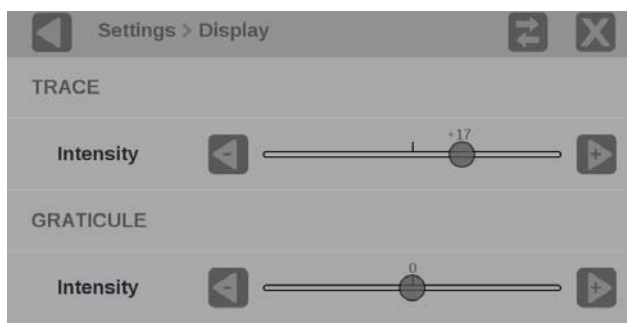

Figure 55: Trace and graticule intensity sliders
3. Use the plus icon (➡️) to increase intensity or the minus icon (⬅️) to decrease intensity of the trace or graticules. (See Figure 55.)